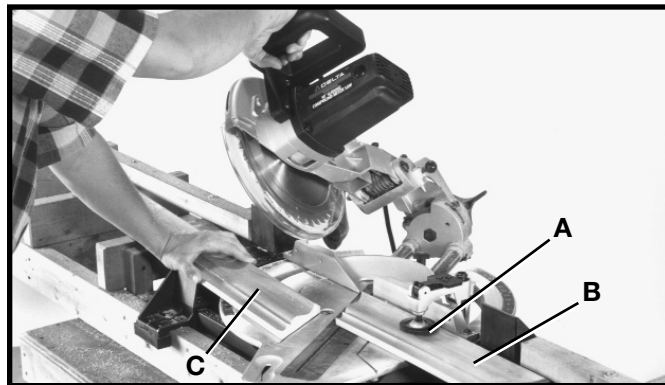
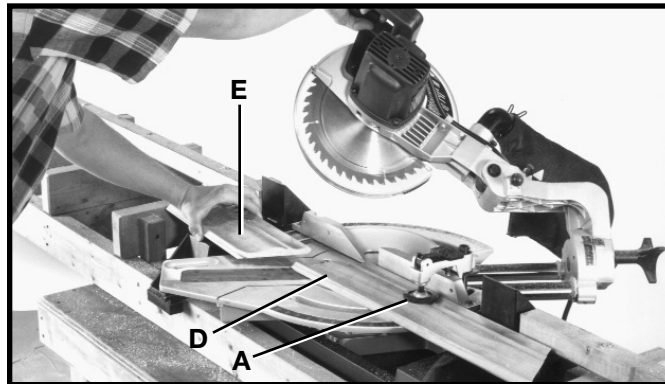
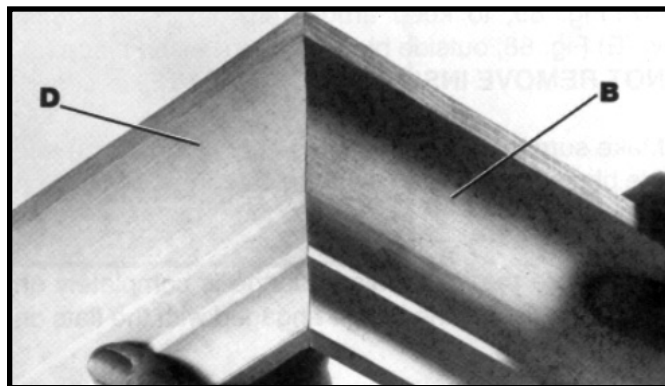
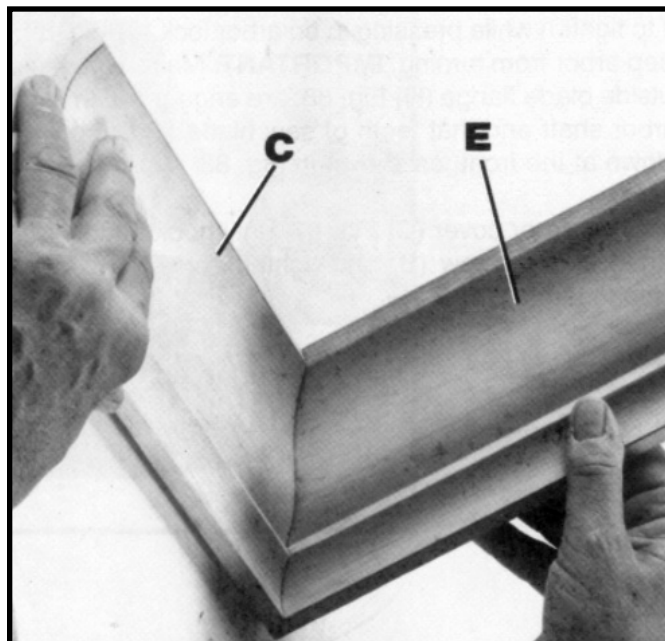

Fig. 83
Fig. 84
Fig. 85
Fig. 86
1. Set the rotating table to the 31.62 degree right miter position, as shown in Fig. 83. A positive stop is provided to set the rotating table at this angle quickly. Tilt the saw blade to the 33.9 degree bevel position. An indicator is provided on the bevel scale to find this angle quickly.
2. Place the crown moulding on the saw table with the **CEILING EDGE** of the moulding against the fence, as shown in Fig. 83, and make the cut. Note that we are using the work clamp (A) Fig. 83, to hold the workpiece firmly against the table. The piece of crown moulding used for the outside corner will always be on the right hand side of the blade, as shown at (B) Fig. 83. The piece of crown moulding used for the inside corner will always be on the left side of the blade, as shown at (C) Fig. 83.
3. To make the matching halves of the inside and outside corners, set the rotating table to the 31.62 degree left miter position, as shown in Fig. 84. A positive stop is provided to set the rotating table at this angle quickly. The saw blade is already tilted to the 33.9 degree bevel angle from the previous cut.
4. Place the crown moulding on the saw table with the **WALL EDGE** of the crown moulding against the fence, as shown in Fig. 84, and make the cut. Again, note that we are using the work clamp (A) Fig. 84, to hold the workpiece firmly against the table. The piece of crown moulding used for the outside corner will always be on the right side of the blade, as shown at (D) Fig. 84. The piece of crown moulding used for the inside corner will always be on the left side of the blade, as shown at (E) Fig. 84.
5. Fig. 85, illustrates the two outside corner pieces, (B) being the piece cut at (B) Fig. 83; and (D) being the piece cut at (D) Fig. 84.
6. Fig. 86, illustrates the two inside corner pieces, (C) being the piece cut at (C) Fig. 83; and (E) being the piece cut at (E) Fig. 84.